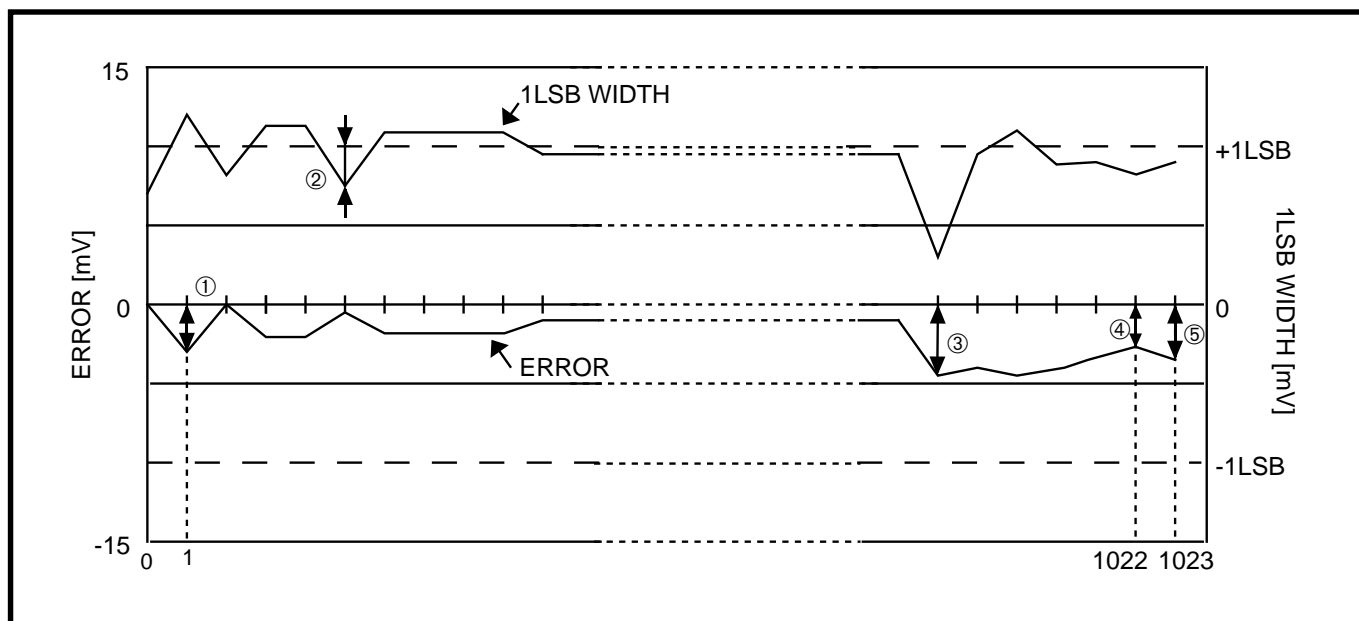

Fig. 3.2.1 A/D conversion characteristics data
Figure 3.2.1 shows the A/D accuracy measurement data.
- (1) Non-linearity error This means a deviation from the ideal characteristics between V_0 to V_{1022} of actual A/D conversion characteristics. In Figure 3.2.1, it is $(4-1)/1\text{LSB}$.
- (2) Differential non-linearity error This means a deviation from the ideal characteristics between the input voltages V_0 to V_{1022} necessary to change the output data to "1." In Figure 3.2.1, this is $2/1\text{LSB}$.
- (3) Zero transition error This means a deviation from the ideal characteristics between the input voltages 0 to V_{DD} when the output data changes from "0" to "1." In Figure 3.2.1, this is the value of ①.
- (4) Full-scale transition error This means a deviation from the ideal characteristics between the input voltages 0 to V_{DD} when the output data changes from "1022" to "1023." In Figure 3.2.1, this is the value of ⑤.
- (5) Absolute accuracy This means a deviation from the ideal characteristics between 0 to V_{DD} of actual A/D conversion characteristics. In Figure 3.2.1, this is the value of ERROR in each of ①, ③, ④ and ⑤.